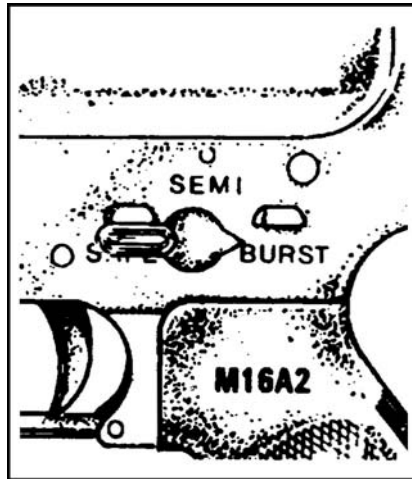

Figure 4. Selector lever on BURST.
- d. Place the selector lever in the BURST position (Figure 4).